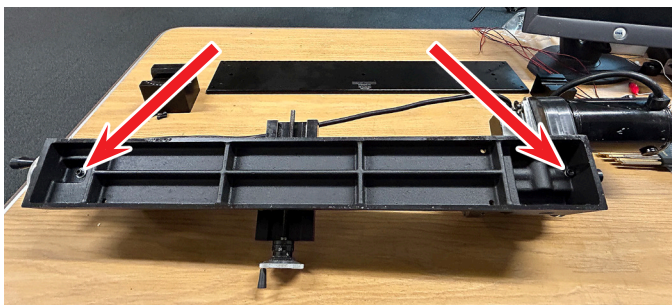

FIGURE 2
2. Your original cast base is mounted to the lathe assembly using (2) 10-32 screws. Flip your machine over, and you will see the two mounting screws shown below (see Figure 2).